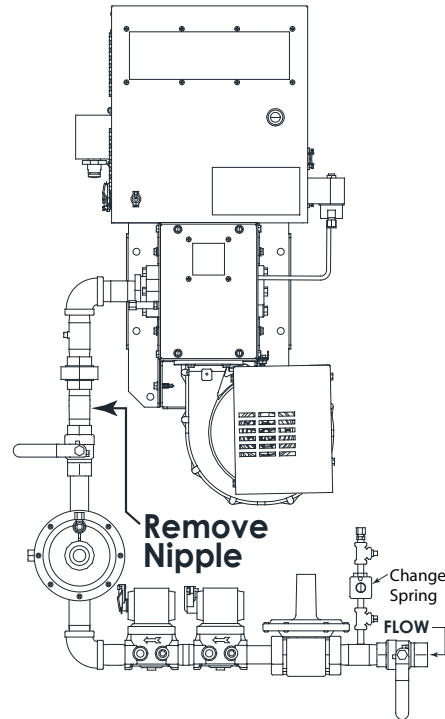

Figure 1 - Flow Direction
2. Remove nipple upstream of the union (See Figure 1 on back page), and replace with the nipple and orifice supplied in the conversion kit. Ensure that the nipple is installed so that the orifice is closest to the burner. **IMPORTANT!** Refer to OEM manual, if available, for specific installation details.
- See *Figures 1 and 2*